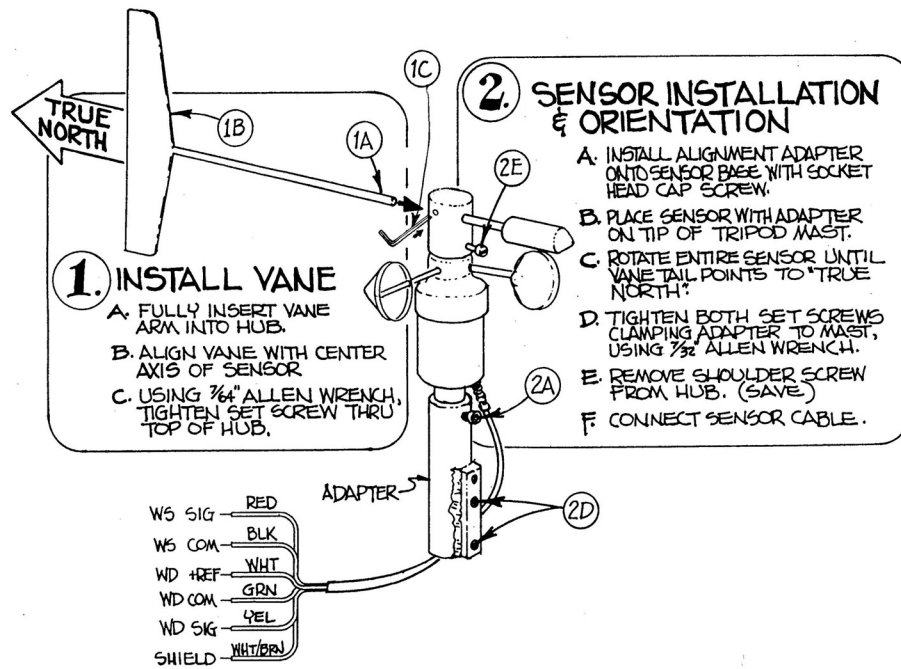

FIGURE 2-1
2.0 INSTALLATION (See FIGURE 2-1)